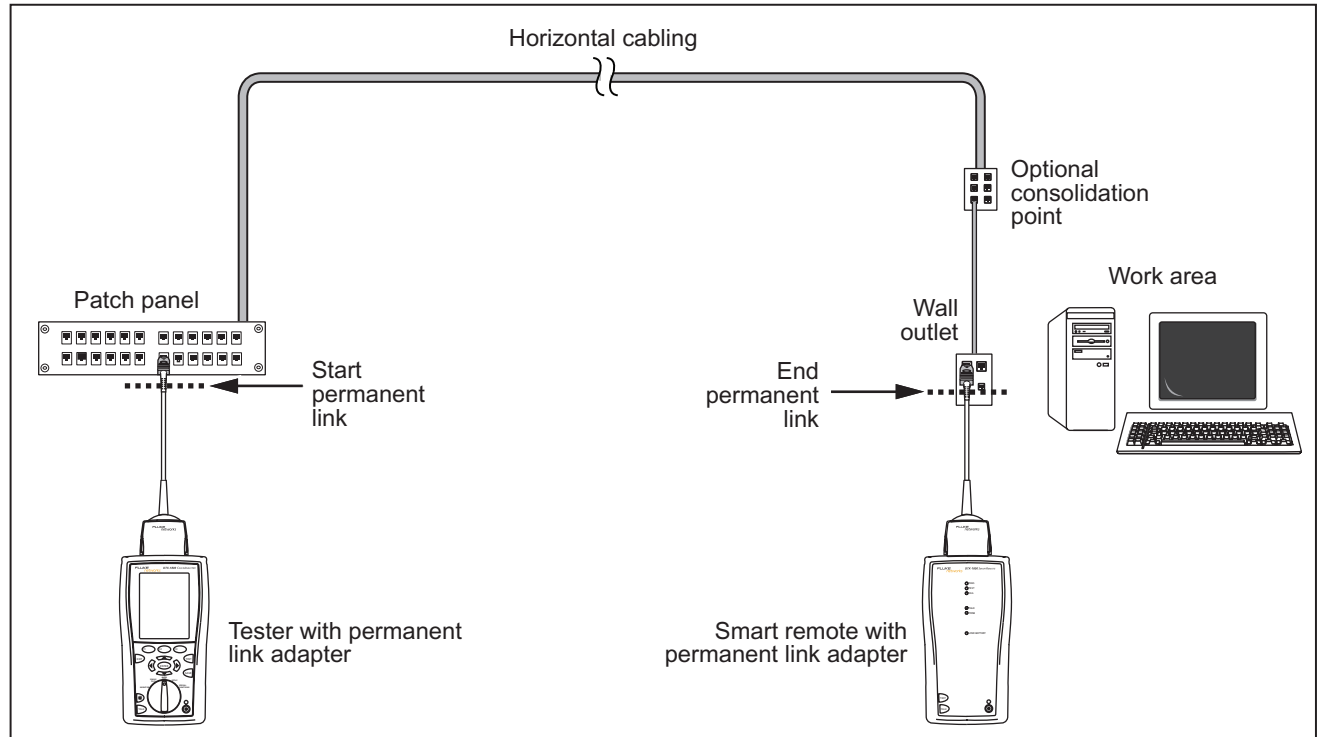
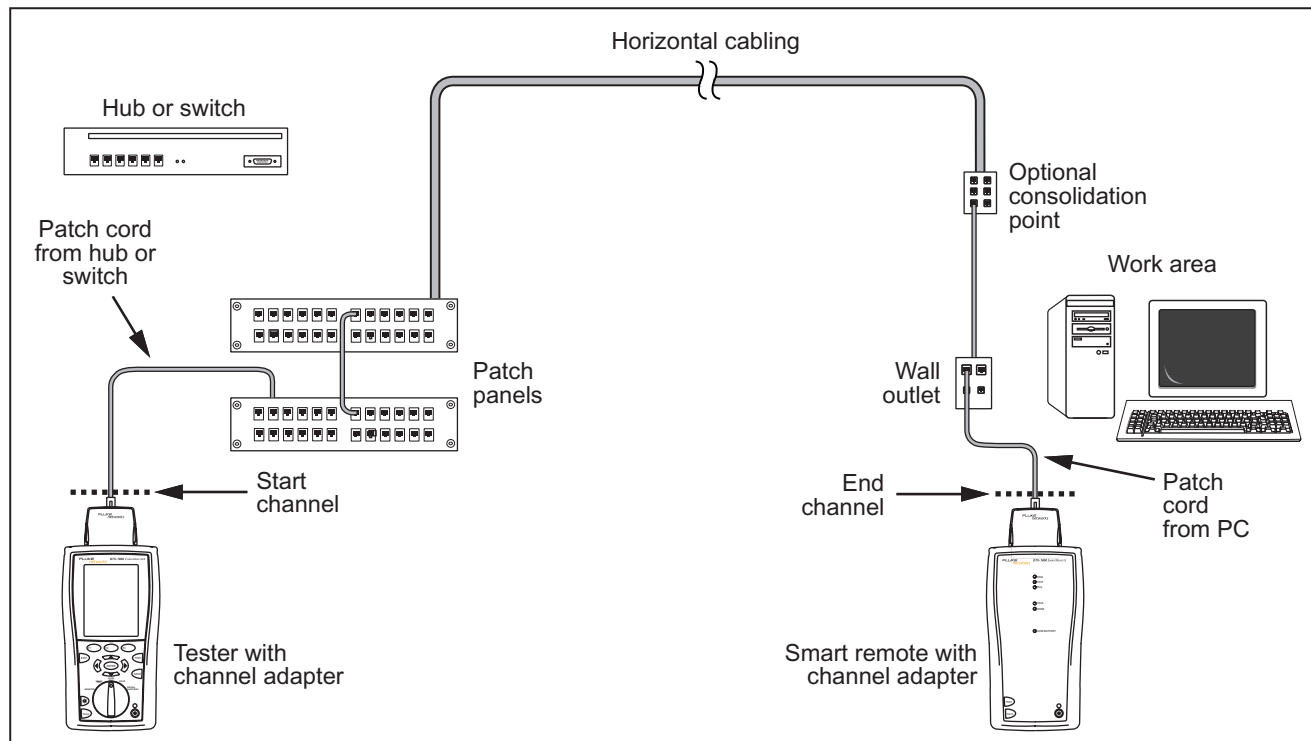

Figure 11. Permanent Link Test Connections
Figure 12. Channel Test Connections
- 3** Turn the rotary switch to **AUTOTEST** and turn on the smart remote. Connect to the cabling, as shown in Figure 11 for a permanent link or Figure 12 for a channel.